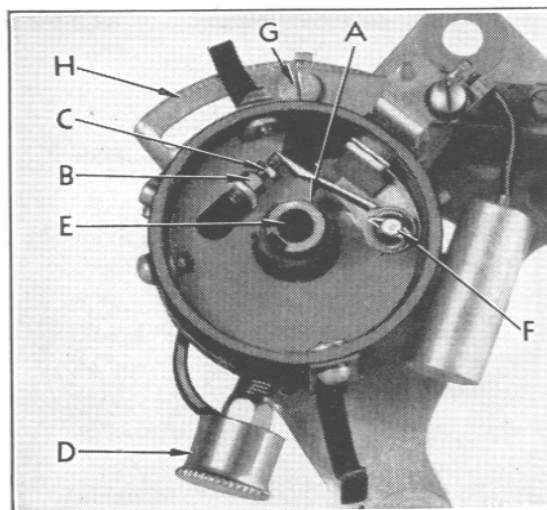

Figure 27
LUBRICATION—Every 2,000 miles the distributor shaft grease cup (D), Fig. 27, should be turned one complete turn. Keep the cup filled with high temperature grease.
BREAKER POINT ADJUSTMENT—Correct breaker point setting is .020". These points are adjusted by removing the distributor cap and cranking the engine until the fiber block on the breaker arm is on the highest point of cam lobe (A), Fig. 27. Then loosen lock nut (B) and adjust screw (C) until the correct clearance is obtained. Tighten lock nut and re-check gap. Breaker points should be clean, smooth, and make full contact.